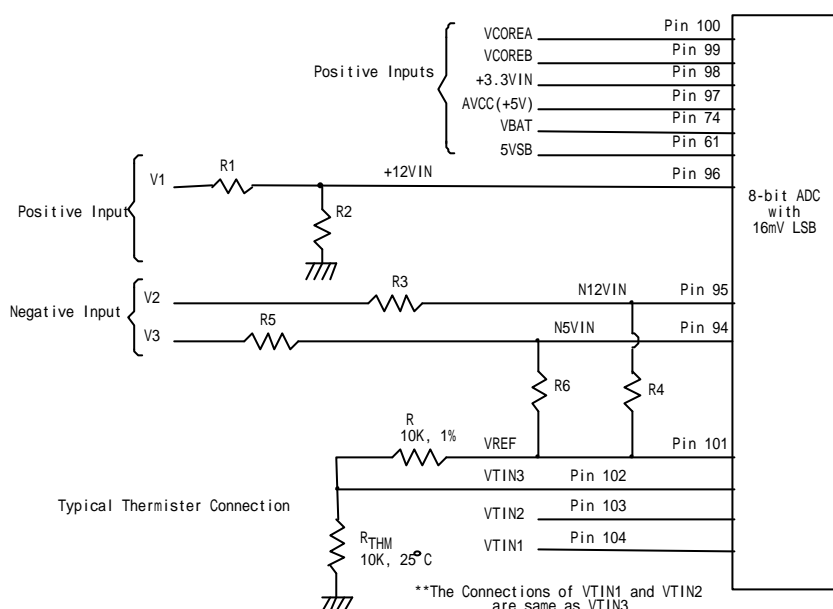

Figure. 9.2
The maximum input voltage of the analog pin is 4.096V because the 8-bit ADC has a 16mv LSB. Really, the application of the PC monitoring would most often be connected to power suppliers. The CPU V-core voltage ,+3.3V ,battery and 5VSB voltage can directly connected to these analog inputs. The +12V,-12V and -5V voltage inputs should be reduced a factor with external resistors so as to obtain the input range. As Figure 9.2 shows.
The negative voltage should be connected two series resistors and a positive voltage VREF (is equal to 3.6V). In the Figure 9.2, the voltage V2 and V3 are two negative voltage which they are -12V and -5V respectively. The voltage V2 is connected to two serial resistors then is connected to another terminal VREF which is positive voltage. So as that the voltage node N12VIN can be obtain a posedge voltage if the scales of the two serial resirtors are carefully selected. It is recommended from Winbond that the scale of two serial resistors are R3=232K ohms and R4=56K ohm. The input voltage of node N12VIN can be calculated by following equation.
The W83697HF can connect three thermistors to measure three different envirmnt temperature. The specification of thermistor should be considered to (1) β value is 3435K, (2) resistor value is 10K ohms at 25°C. In the Figure 9.2, the themistor is connected by a serial resistor with 10K Ohms, then connect to VREF (Pin 101).